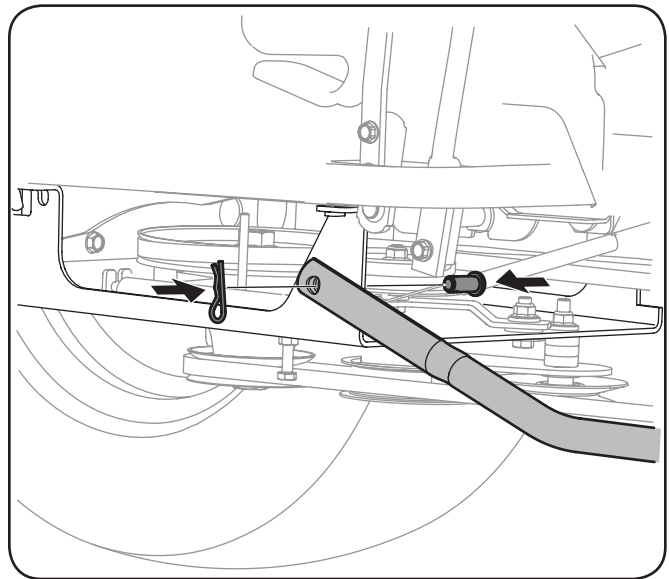

Figure 3-17
1. Secure the left support tube to the front of the undercarriage assembly with the clevis pin and hairpin clip removed earlier in step 2 of the mounting the undercarriage assembly section. See Fig. 3-17.